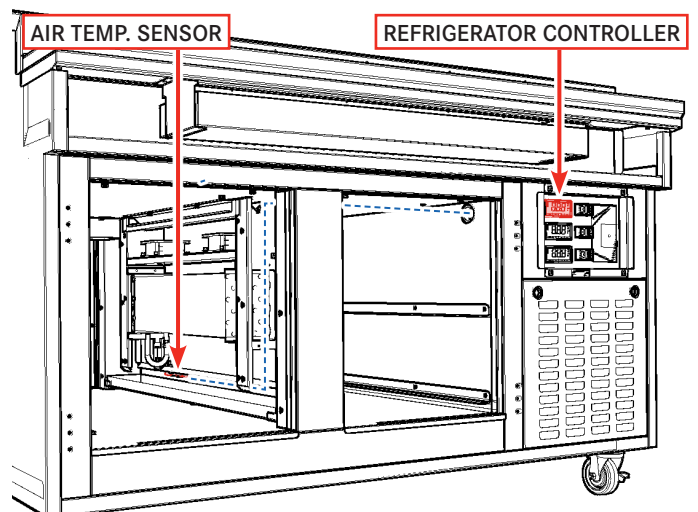

Fig. 22
2. Disconnect air temperature sensor wiring from refrigerator controller (refer to Fig. 22 and *Power ON/OFF Switches & Controllers*, page 5).